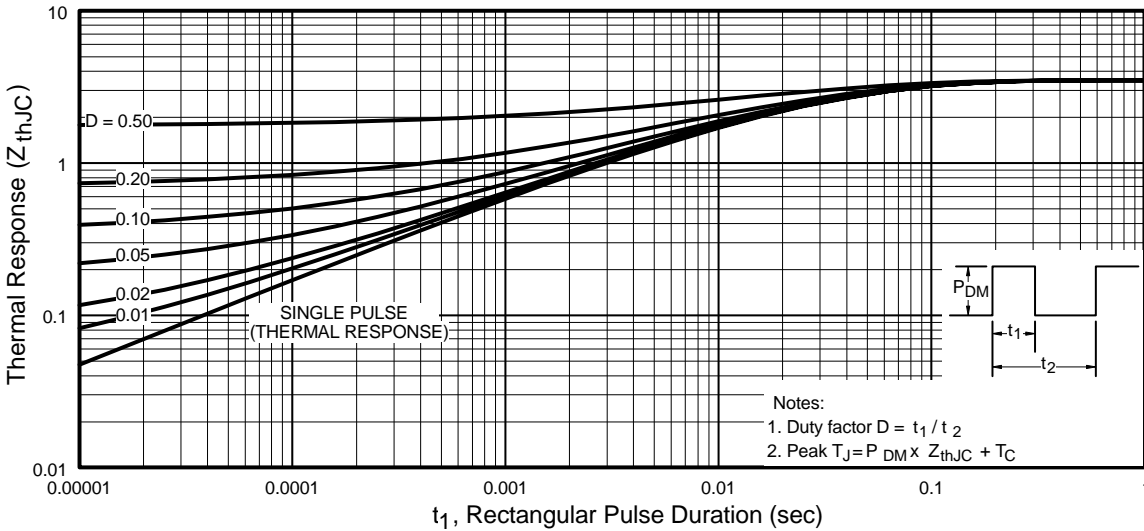

Fig 11. Maximum Effective Transient Thermal Impedance, Junction-to-Case
- ① Repetitive rating; pulse width limited by max. junction temperature. (See fig. 11)
- ② Starting $T_J = 25^\circ\text{C}$, $L = 95\text{mH}$